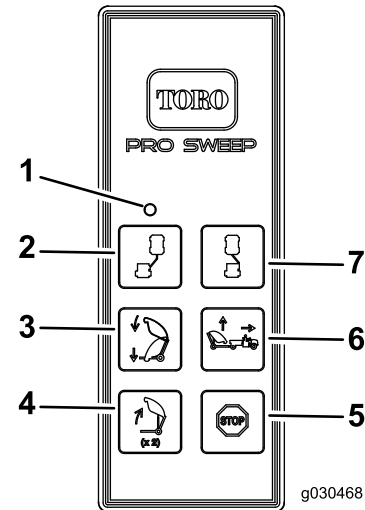

Figure 27
2. Press the hopper-dump button for one second, release the button for one second, and press the hopper-dump button again (Figure 27).